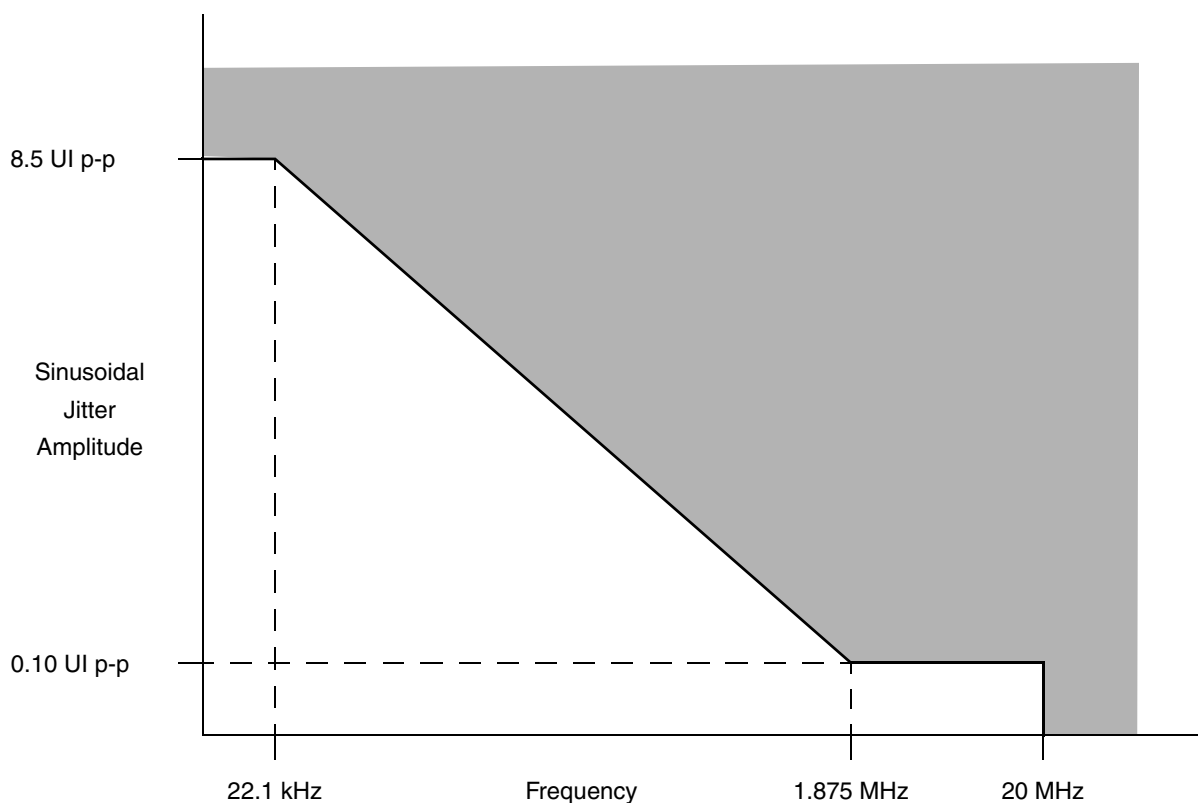

Figure 60. Single Frequency Sinusoidal Jitter Limits
- Total jitter is composed of three components: deterministic jitter, random jitter, and single frequency sinusoidal jitter. The sinusoidal jitter may have any amplitude and frequency in the unshaded region of Figure 60. The sinusoidal jitter component is included to ensure margin for low frequency jitter, wander, noise, crosstalk and other variable system effects.
Figure 60 shows the single frequency sinusoidal jitter limits.